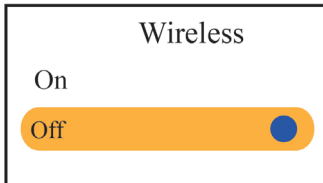

Figure 4.10F Wireless setup
- Wireless: To turn on/off the wireless connection function, the factory default is "On", as shown in figure 4.10F.